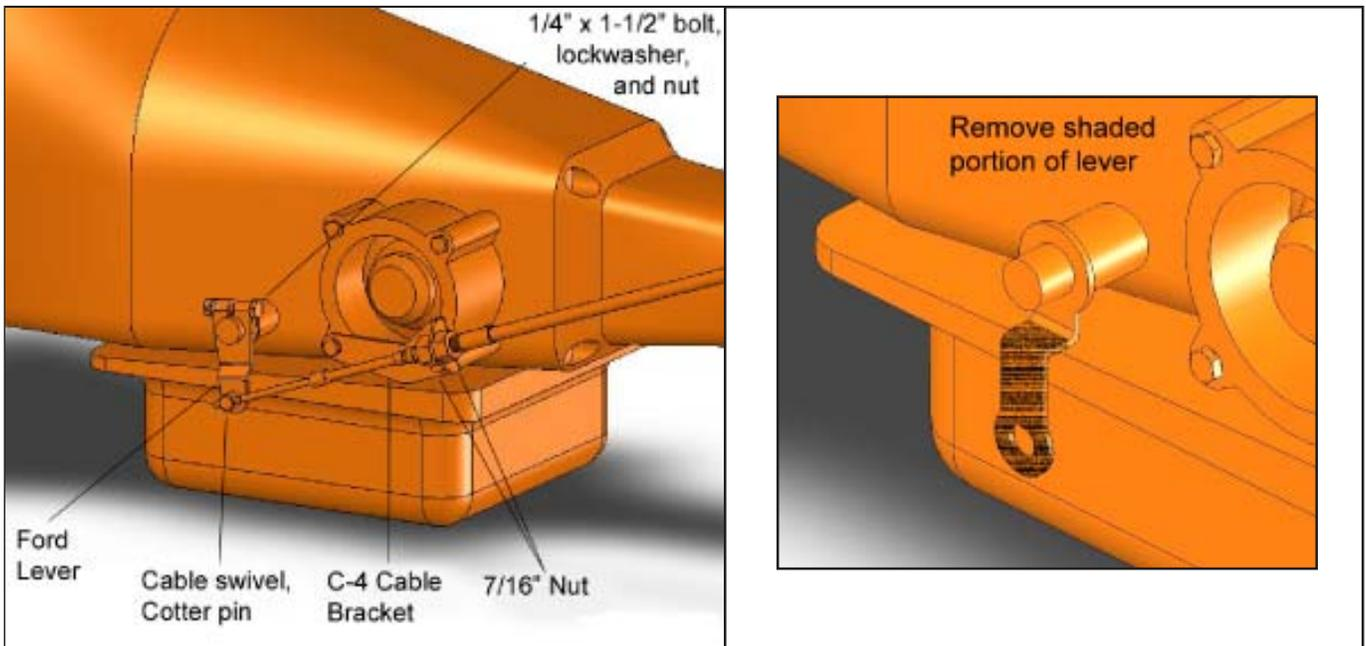

Figure 5
**STEP 14.** Install the **B&M** selector lever (See Figure 5 or 6). Note: The **B&M** lever must point downward for proper operation. If the stock shift lever on your transmission points down, you will have to remove the lower part of the stock arm by cutting it off to clear the **B&M** lever (See Figure 5). Install the **B&M** selector lever onto the shift shaft of the transmission. Align the **B&M** selector lever so when it points straight down it travels equal arcs in both directions from the center, then tighten the 1/4"-20 x 1 1/2" pinch bolt and the nut. The lever should travel smoothly from front to back with a positive
**C-4, C-5:** Remove the two lower bolts from the rear servo cover. Install the cable bracket in position (See Figure 5). Install the two servo cover bolts as removed and tighten to 12-13 lb. ft. Do not overtighten as this can distort the servo cover.